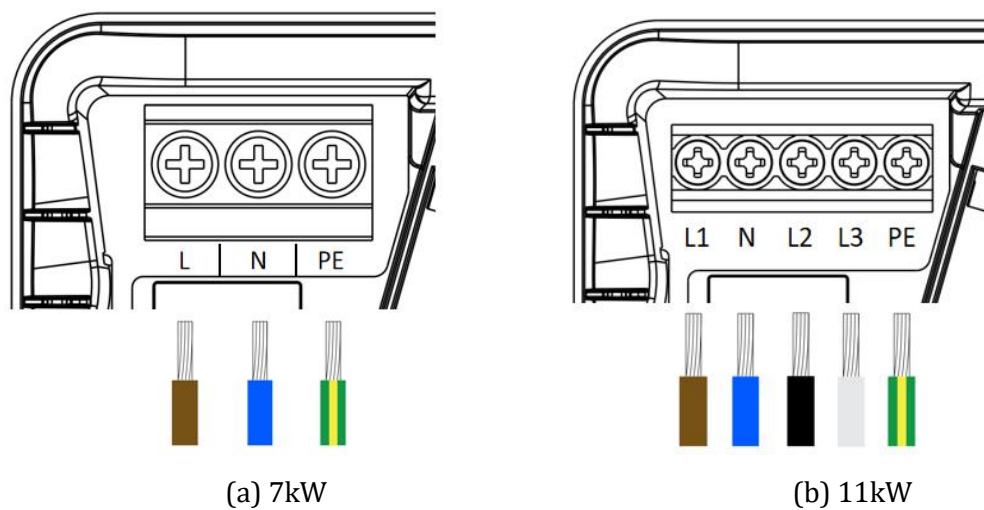

Figure 4-13 Wire stripping
(5) If power cable is flexible conductors, it is recommended to use ferrules on stranded wires. Use correct tools to press them. Connection mode of 7kW and 11kW is as shown in Figure 4-13.